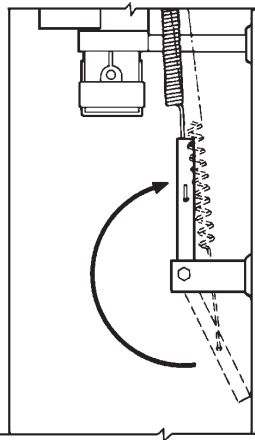

FIGURE 5-35
- ▶ 13. Make certain tension lever is in the “UP” position. See Figure 5-35.